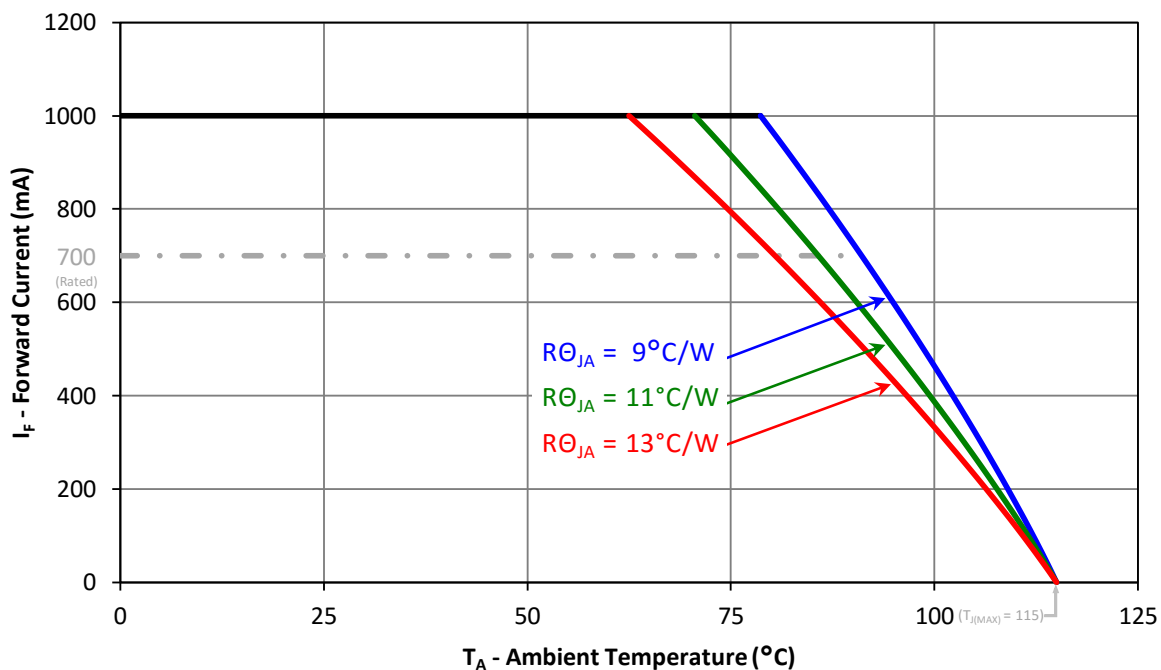

Figure 11: Maximum forward current vs. ambient temperature based on  $T_{J(\text{MAX})} = 115^{\circ}\text{C}$
- Maximum DC forward current is determined by the overall thermal resistance and ambient temperature. Follow the curves in Figure 11 for current derating.
Notes for Figure 11: